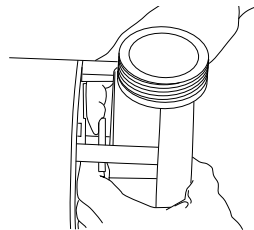

Figure 17
5. Screw impeller onto shaft until impeller hub hits shaft shoulder, automatically pulling seal into place (Figure 17). Work slinger over end of impeller sleeve so it rides on sleeve.